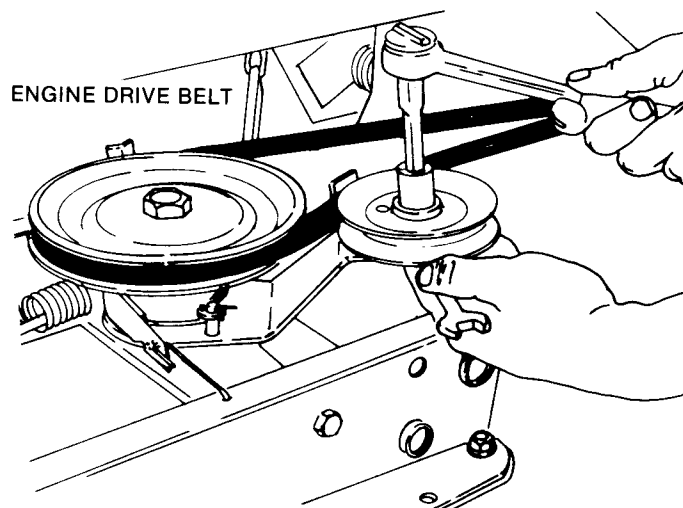

FIGURE 7 - LOOSEN IDLER PULLEY
STEP 2: Loosen the engine drive belt idler and slip the engine belt off the carrier pulleys (Figure 7).